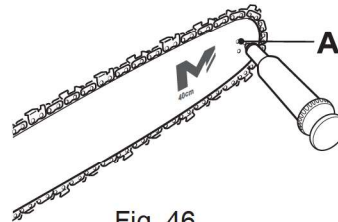

Fig. 46
- > Clean the sprocket nose (5).
- > Using a disposable lube gun, insert the nose of the needle into the lubrication hole (Fig. 46, A) and inject grease until it appears on the outside edge of the sprocket (5) (Fig. 46).